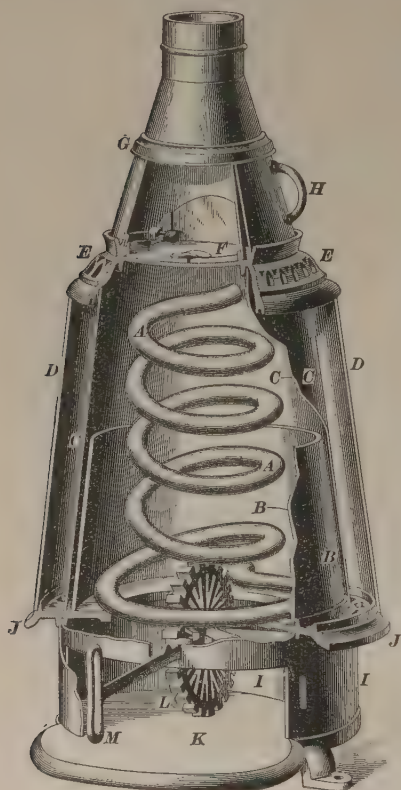
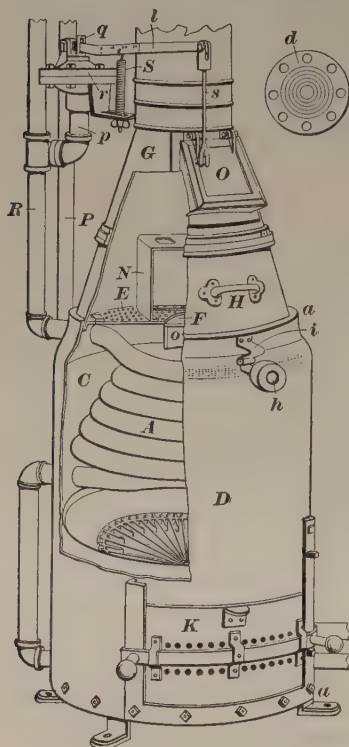

FIG. 1
FIG. 4
3. In Fig. 1 is shown the ordinary Baker heater, in which *A* is the generator coil, sometimes spoken of as the water coil; *B*, the fire-pot; *C*, the inside casing; *D*, the outside casing; *E*, the top casting; *F*, the safety plate; *G*, the base of the smoke flue; *H*, the feed-door; *I*, the ash-pit; *J*, the ash-pit casting; *K*, the base of stove and bottom of ash-pit; *L*, the grate shown in position for dumping; and *M*, the rocking bar and shaker for the grate. The castings *E* and *J* are perforated, as shown, so as to permit an upward circulation of air through the space between the casings
The water coil is shown in Fig. 1 with the coils apart so as to give a better idea of its form. In service, the coils are close together so no coal can work between the coils to the outside. Fig. 4 shows the coil as it really is.
7. General Description.—In Art. 3, Fig. 1 was alluded to as the ordinary Baker heater; this term is used to distinguish that heater from the one now about to be described, and known as the *fireproof heater*. One of the main objections to heating cars by fire is the danger of hot coals being scattered in the event of a wreck, thus setting the cars on fire; this danger is reduced to a great extent by the use of the **fireproof car heater** shown in Fig. 4.
In Fig. 4, *D* is the fire-safe, which is constructed as follows: The outside shell, or casing, is made of a flexible grade of steel, and is without seam or joint; its depth is from *a* to *a*, as shown. Next to this shell on the inside are placed sheets of asbestos. Inside of this asbestos is a sheet-iron casing *C*, enclosing the generator coil *A*; between this casing and the coil is an air space that accommodates the hot gases of combustion. The space enclosed by the coil serves as the fire-chamber. Thus, the fire in the heater lies within four casings: (*a*) a water casing, so to speak, formed by the close-wound pipe coils filled with water; (*b*) a sheet-iron casing; (*c*) an asbestos sheeting; and (*d*) an outer casing of steel plate.
In Fig. 4, a part of the smoke screen *N* is seen; this is a cone-shaped casting, open at the front where the coal is fed in, this opening being just behind the feed-door, of course;
9. **Regulating the Heaters.**—The fireproof heaters just described are fitted with an arrangement for automatically regulating the fire according to the pressure in the heater and, therefore, the temperature in the radiating pipes; this draft regulator is marked *r* in Fig. 4. A pipe *p* leaves